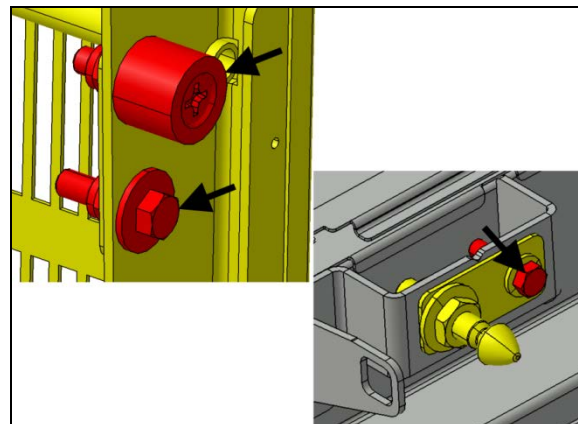

FIGURE 61
13. Open the door and perform a final tightening to the items indicated with arrows (FIGURE 61).